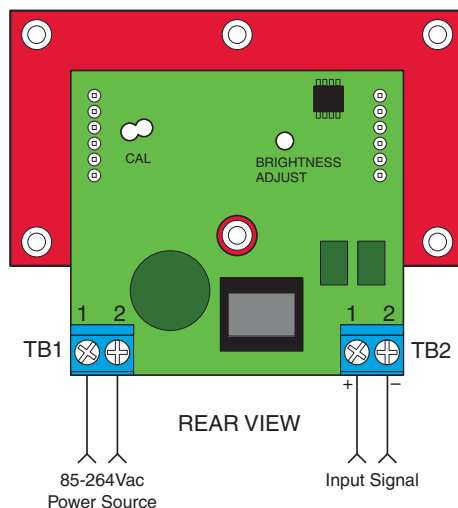

Figure 1. DMU-30ACV wiring diagram
- 3. Power Supply Polarity, Fusing, Wiring and Grounding:** The power supply inputs (TB1-1 and TB1-2) on DMU-30ACV voltmeters are not polarity sensitive, that is, they have no "AC LO" or "AC HI" designations. These units do not include or require a connection to earth/chassis ground. Refer to Figure 1 for a typical wiring diagram.